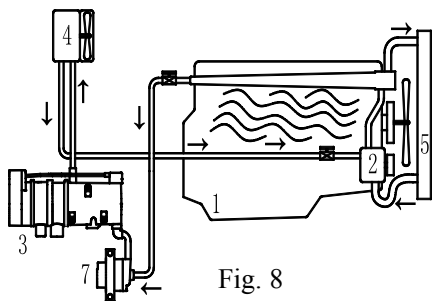

Fig. 8
4.3.2 Connect the heater master with the engine coolant circulation system as shown in Figure 8, 9 or 10.
Connected in Figure 8 or 10, the heater and the heat exchanger of warm blower series, engine and passenger compartment heating at the same time.